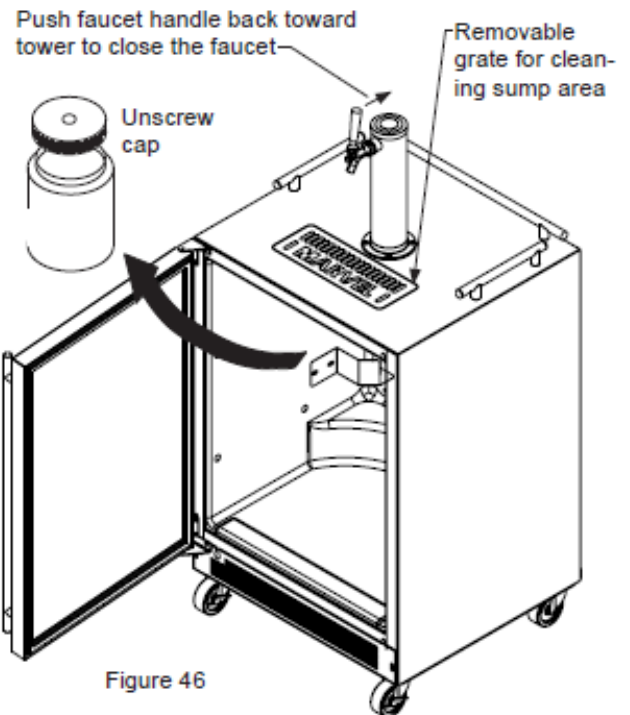

Figure 46
2. Be sure the faucet handle is closed on the tower (see Figure 46).
On a free standing beer dispenser remove the Marvel grate from in front of the tower, clean with soap and water and dry before reinstalling. Clean the sump area with soapy water and dry. (See figure 46).